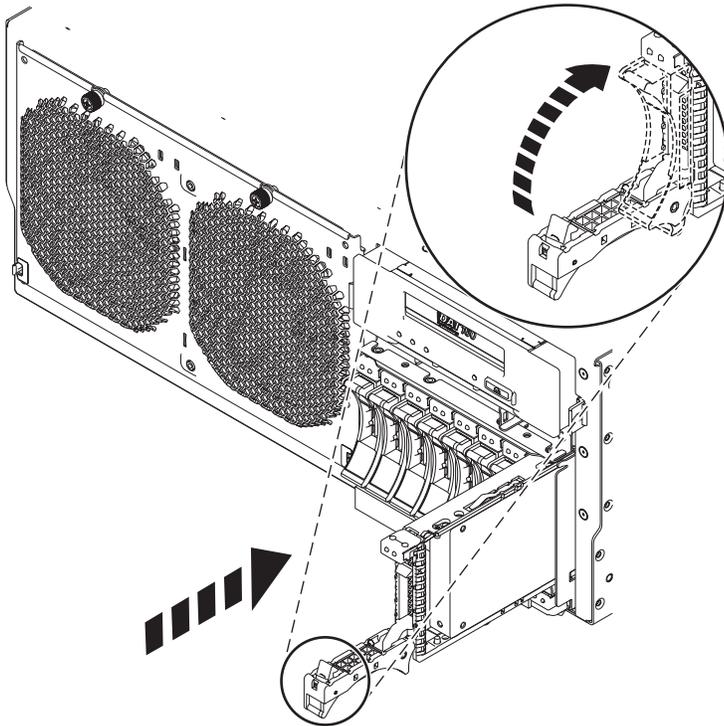

Figure 11. Installing the disk drive in the system
5. Slide the drive all the way into the system or expansion unit, and push the drive handle (A) in until it locks, as shown in Figure 11.